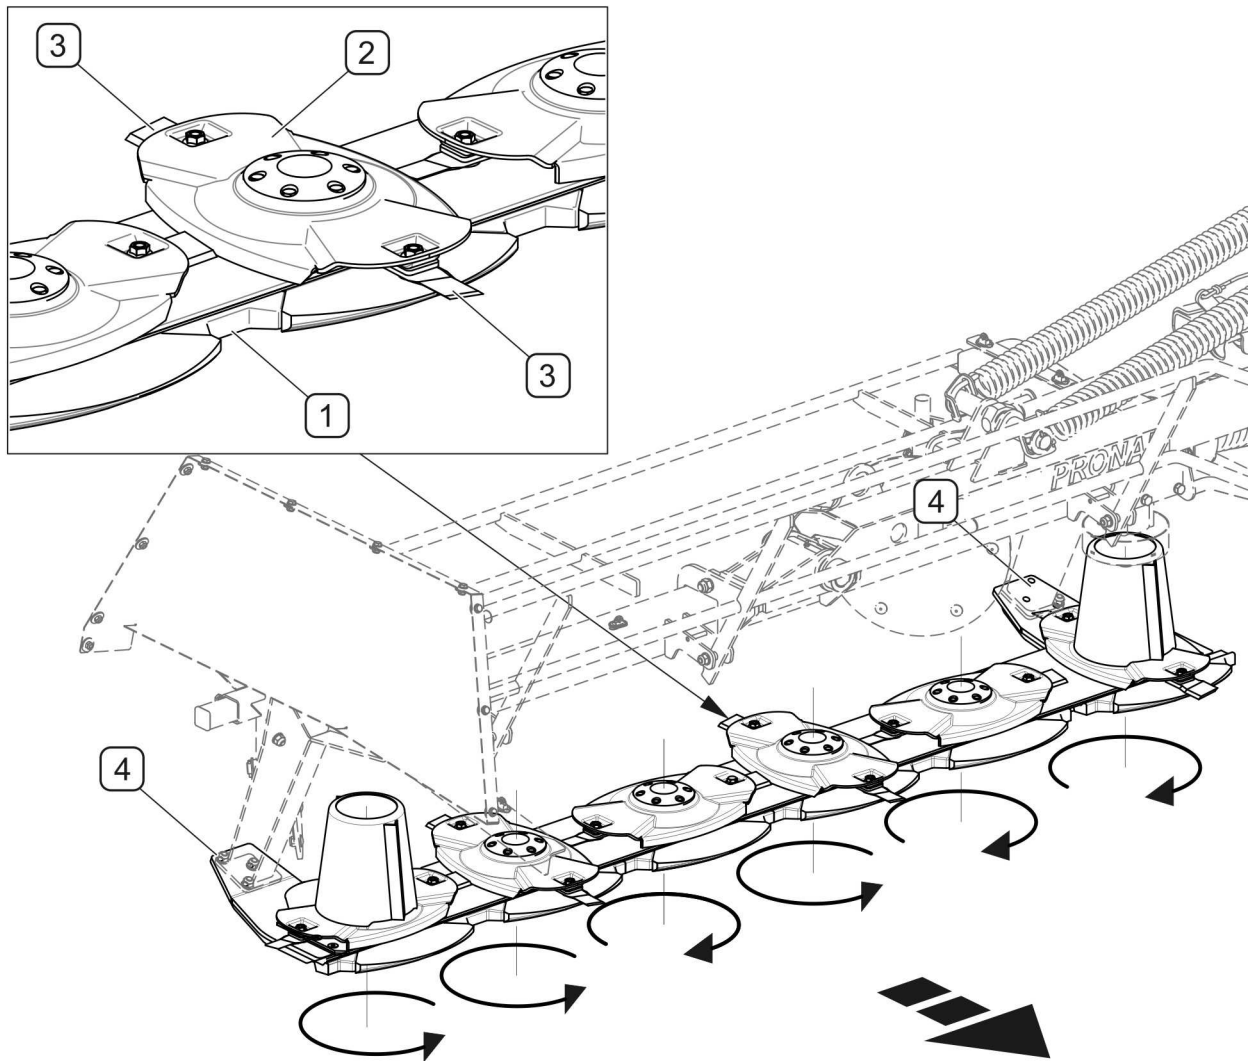

FIG. 3.5A Cutting unit
(1) cutterbar, (2) cutting disc, (3) knife, (4) foot
Cutting unit of the PDT250 mower it comprises the cutterbar (1) on which are mounted six cutting discs (2). The cutterbar is mounted to the frame with the aid of a foot (4). Two cutting knives are mounted on each of the cutting discs, right or left depending on disc rotation direction. Rotation direction of individual discs is shown on figure 3.5A